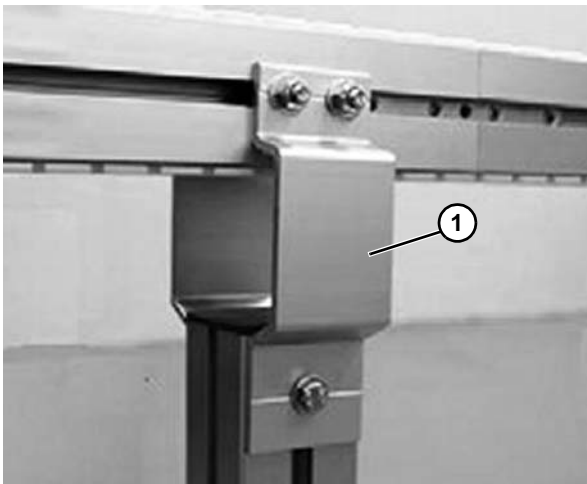

Figure 15
Vertical beam support brackets (**Figure 15, item 1**) are used with vertical support beams and are made from aluminum.